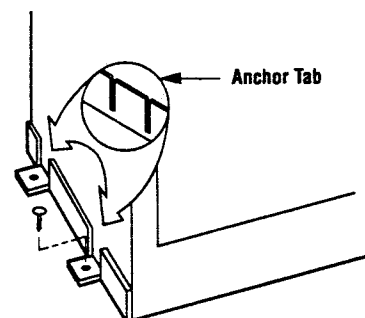

Figure 9
Fireplace may be anchored to floor. Bend down four (4) anchor tabs located at the base of the fireplace and secure to the floor by nailing with 8d nails (*Figure 9*).